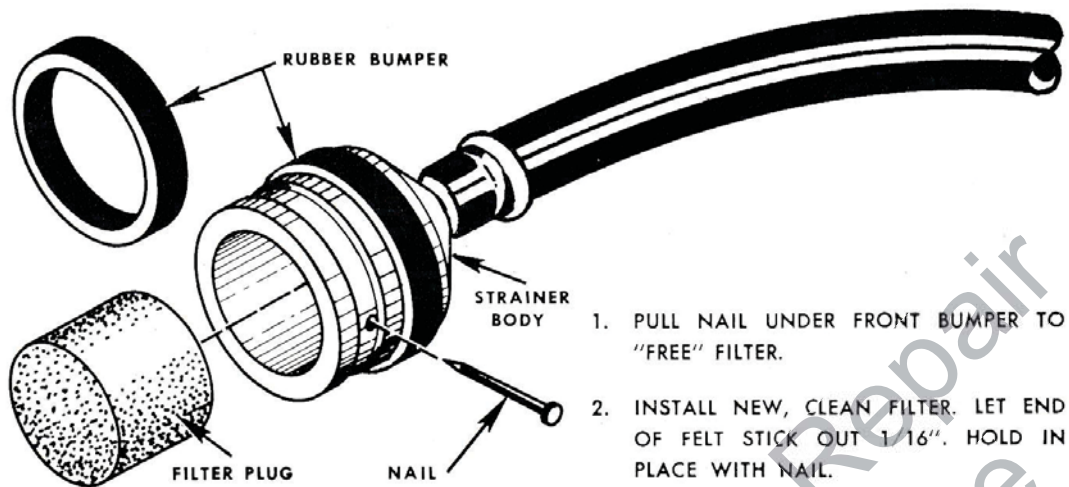

Figure 11—Changing Fuel Filter
(1) NEVER RUN THIS CHAIN SAW WITHOUT A FUEL FILTER IN THE TANK. This filter is absolutely necessary to keep moisture and foreign solids from getting into the carburetor and engine. It works efficiently until its storage capacity is used up, whereupon the filter clogs and will not pass even fuel. When this happens, the engine will suddenly begin to run *lean* without any previous warning.
(2) To check condition of fuel filter, fish the pick-up assembly out of the fuel tank filler hole, as shown in figure 11. Remove filter plug from strainer body and compress filter between the fingers. If it feels hard to the touch, it is loaded up and should be changed.
(3) FLEXIBLE FUEL PICK-UP TUBE: Deterioration of this tube may cause *lean* operation whenever the saw is placed in a cutting position where the cracked or porous part of the tube will be above the fuel level. If the leak is below the fuel level, air cannot be sucked through the break into the system,